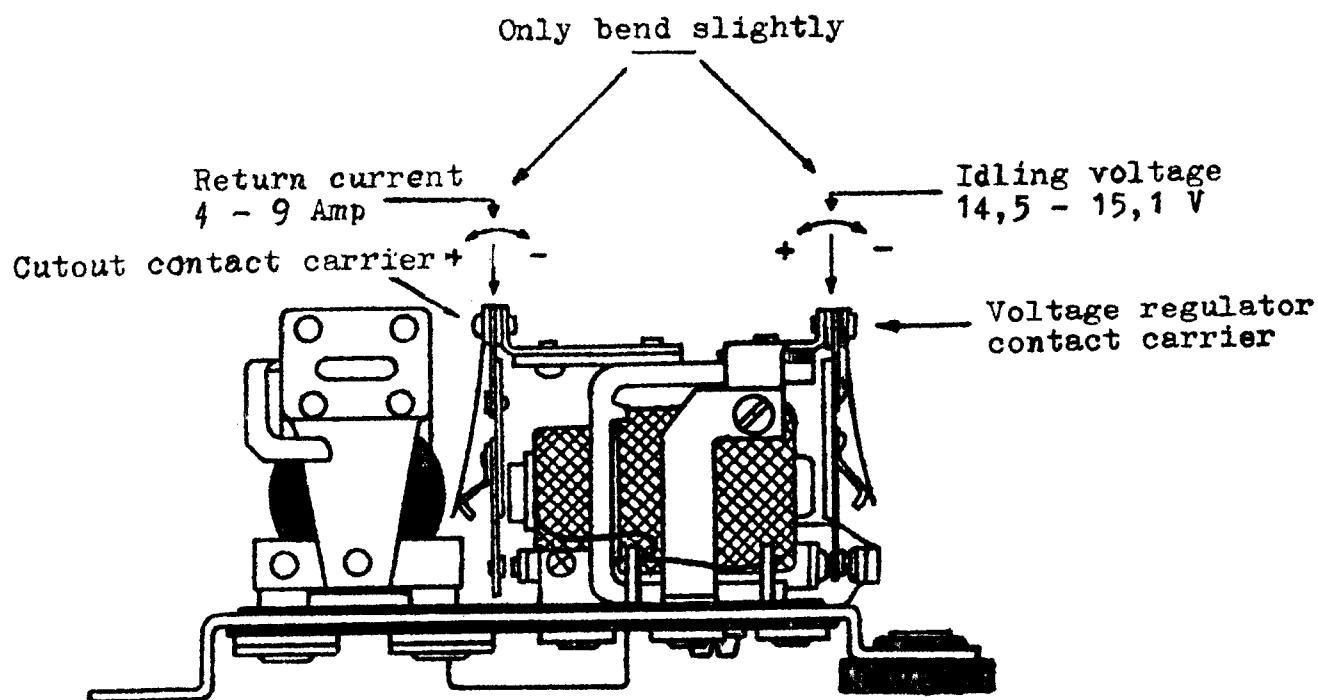

Fig. 8/II
- a) Remove the regulator cover and disconnect the Ammeter at one terminal and bend the fixing bracket of the cutout contact carrier slightly inwards to obtain a lower return current ( Fig. 8 / 11. ) and slightly outwards for higher return current.